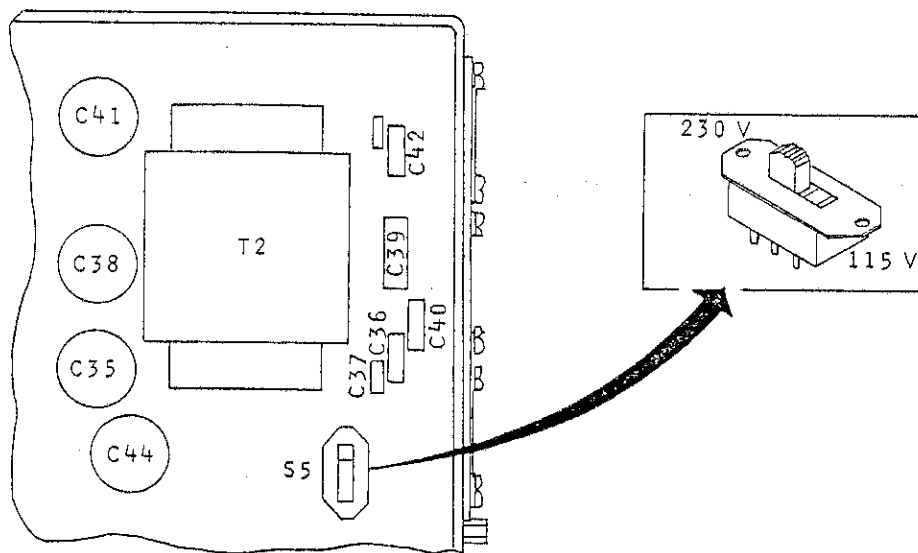

Figure 2-3. Power Programming
2.3.6 Internal Power Connections. The API is designed to operate from 115 V or 230 V, 47 to 440 Hz input power. It is normally set in the factory for 115 V operation. For 230 V operation move Power switch (figure 2-3), located on the standard board near the power transformer, to 230 V position. For 125 V or 250 V operation, see schematic.